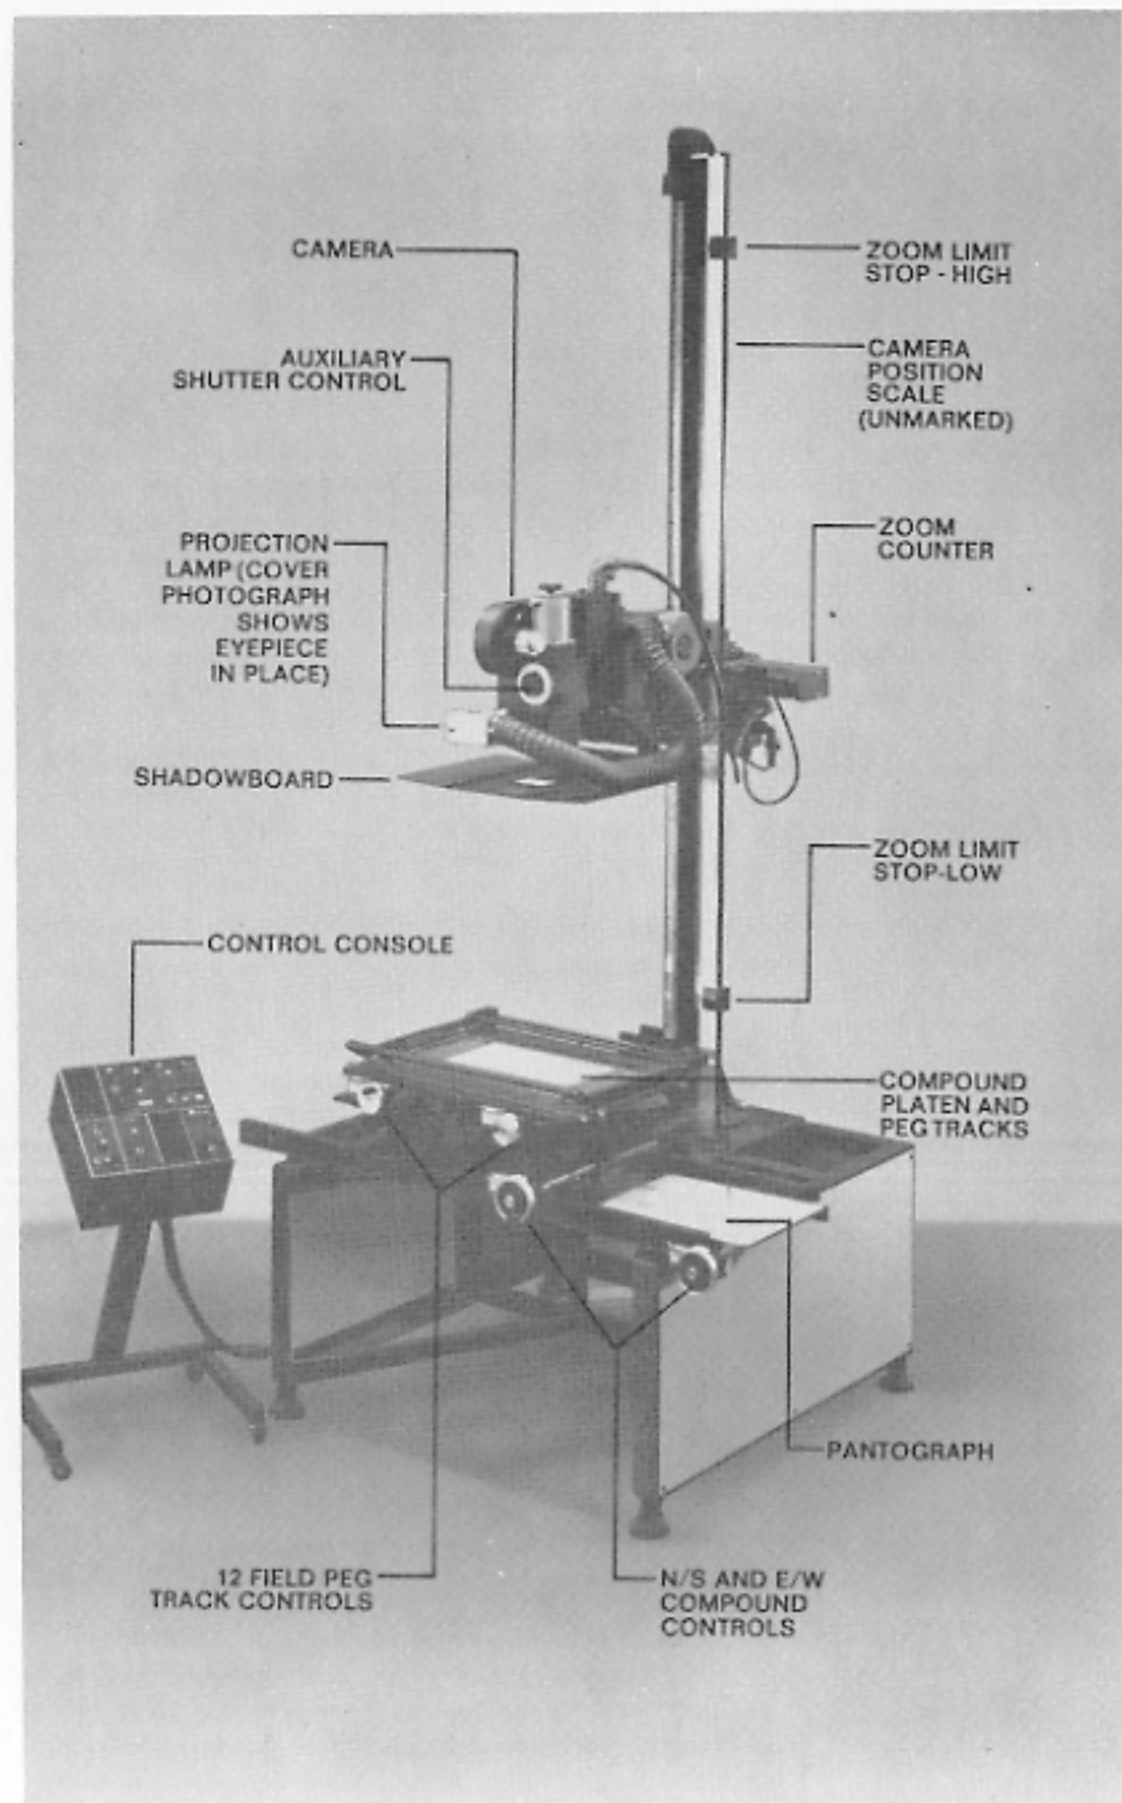

figure 1. Model 5332 Filmmaker 16mm Animation Stand and Camera.
- Fig. 1 Overall Stand
The stand contains the drive mechanism for changing the vertical position of the camera, the compound on which the copy is mounted, the interlocks for preventing camera or lens damage from extreme raising or lowering of the camera carriage, the device for maintaining focus over the full range of the camera positioning, the light source for projecting the reticle when sizing, and an unmarked positioning scale (See Fig. 1).